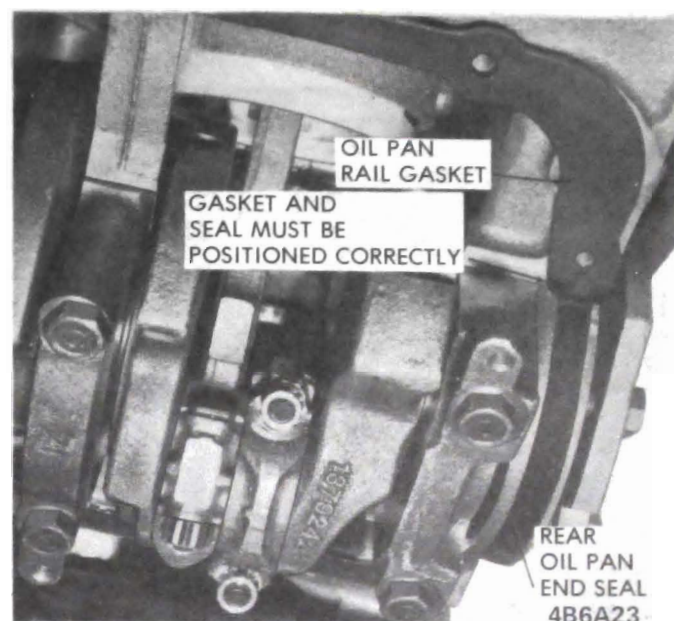

Figure 6A-72 - Oil Pan Gasket and Seal Installation
4. Apply silastic sealer to a few spots on a new pan gasket and install on block. *Make sure seal and gasket are properly fitted.* See Figure 6A-72. (455 cu. in. only).